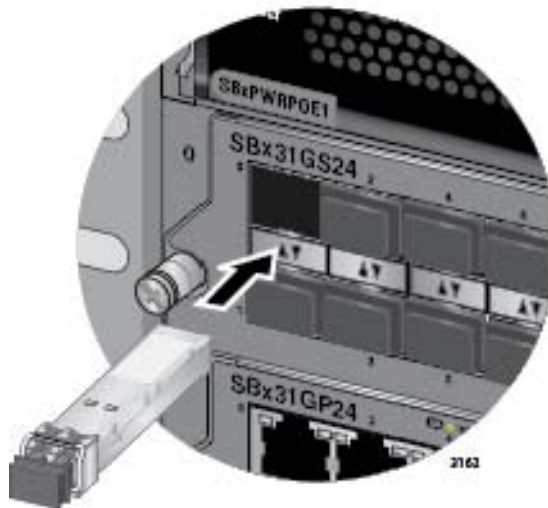

Figure 102. Inserting an SFP Transceiver in the AT-SBx31GS24 Line Card
4. Slide the transceiver into the slot until it clicks into place, as shown in Figure 102.